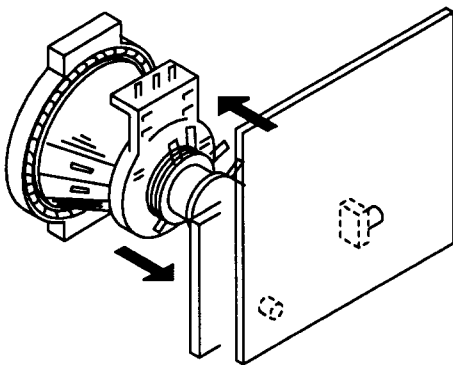

Fig. 3-1
(See Figures 3-1 through 3-3.)
5. Move the deflection yoke forward and adjust so that the entire screen is red. (See Figure 3-1.)